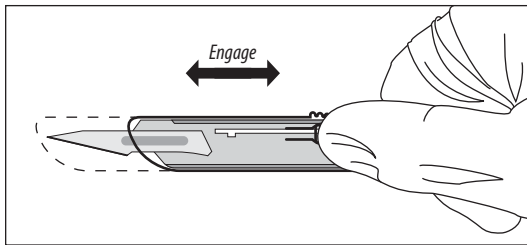

Figure 27
- Engage safety and/or locking feature of scalpel (where provided) once cutaneous puncture site is enlarged, to reduce risk of cutting the guidewire (refer to Figure 27).